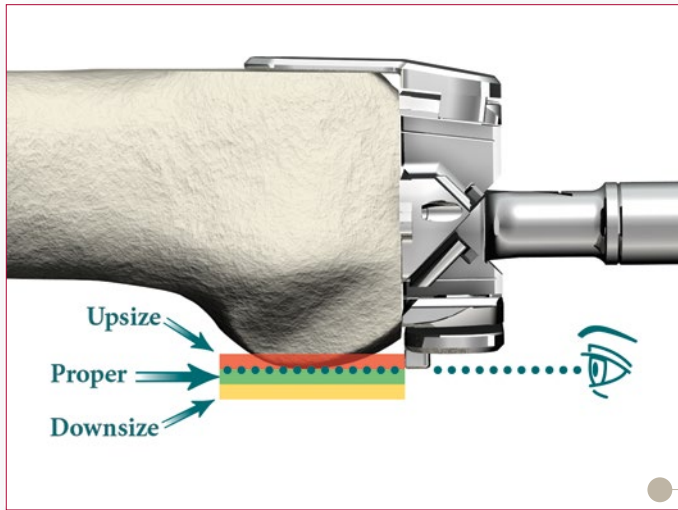

Figure 27
- ▶ From the posterior resection plane, the bottoms of the tabs on the posterior capture represent the posterior implant thickness and the amount of bone the Triathlon implant will replace. Sizing is done by sighting across the bottom surface of the tabs and comparing that plane with the most posterior aspect of the femur (typically, on the medial condyle). The color coded bands in Figure 27 each represent 3mm of height and provide sizing information as follows: